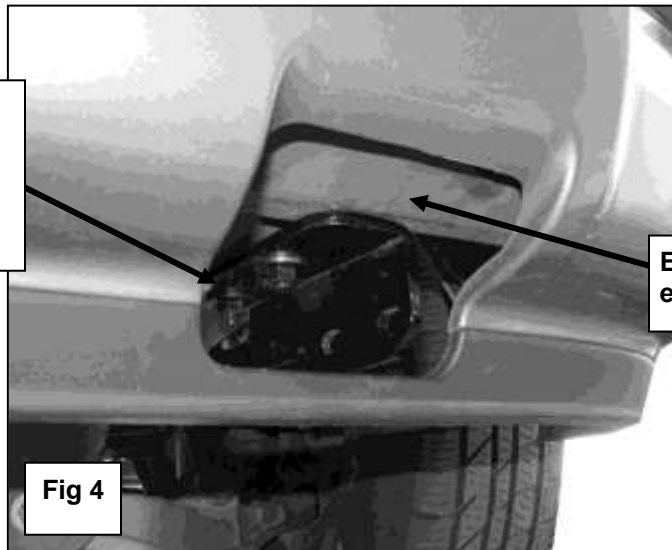

Fig 4
BULL BAR (WITH SKID PLATE) FOR Ford F150 04-20**Expedition 03-17**Lincoln Navigator 03-17 the driver side Mounting Bracket in position with the slotted end toward the rear. Secure the Mounting Bracket to the U-Bolt with (2) 10mm x 27mm OD x 3 mm Flat Washers, (2) 10mm Lock Washers and (2) 10mm Hex Nuts, **(Figure 4)**. Snug but do not tighten the hardware.